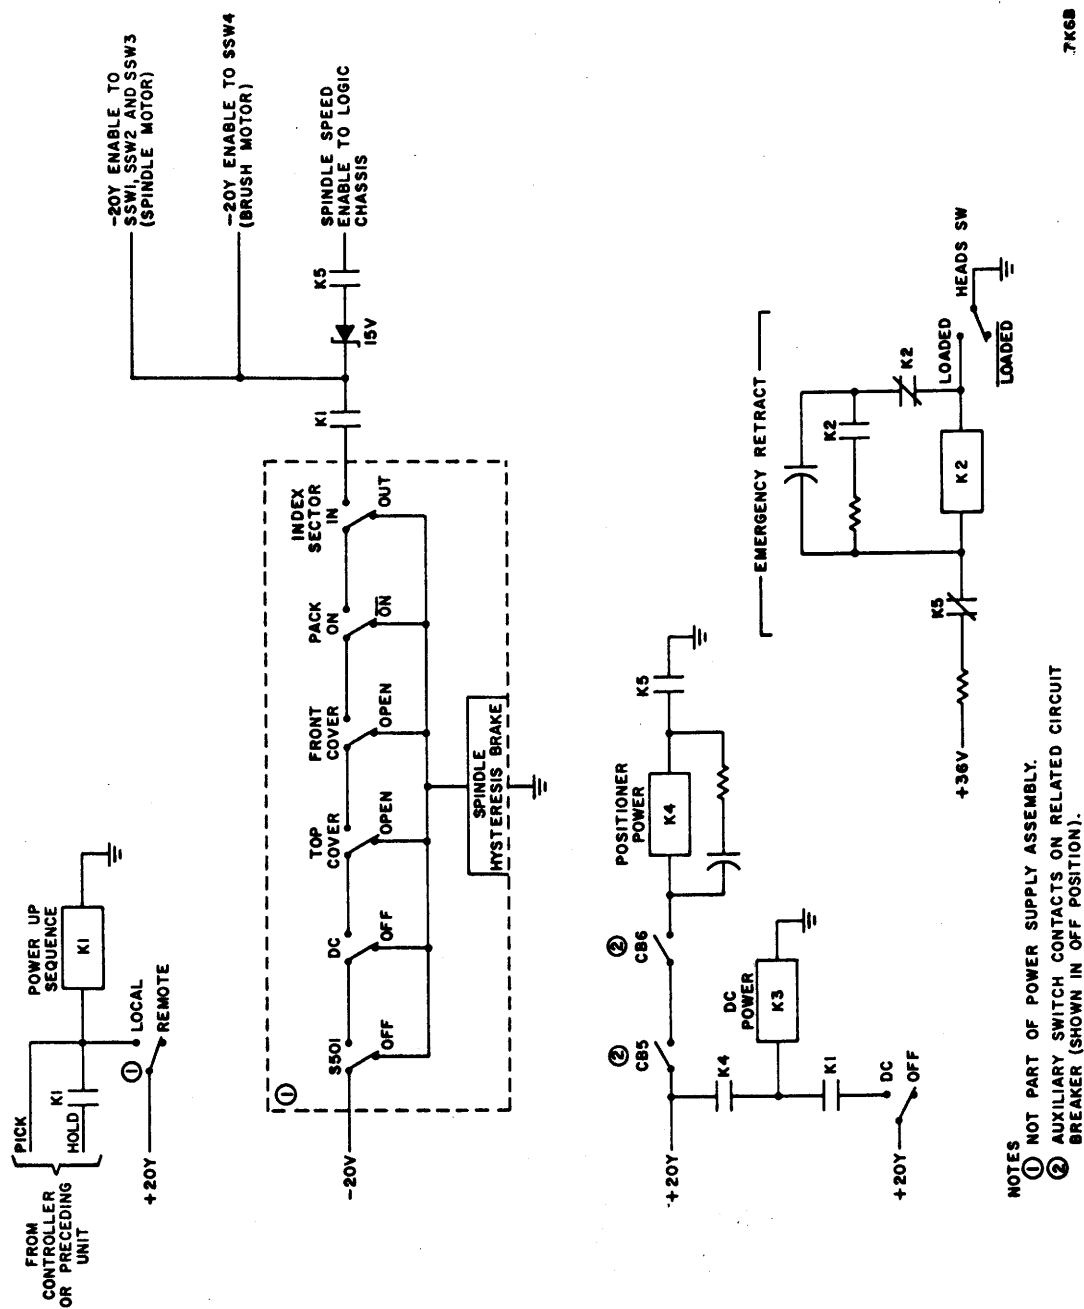

Figure 4-8. Power Supply - Sequencing
2. Press operator panel switch S501 (Figure 4-8).
3. Controller-issued sequence voltage energizes K1 via the pick line (Figure 4-8). Closing contacts of K1 cause the following:
- e. Energize relay K4 (Figure 4-8).
- a. Apply an additional +20 volt line to the armature of relay K3 (Figure 4-8).
1. Press operator panel switch S501 (Figure 4-8). The -20Y voltage is switched to cause the following:
- b. Opens the ground side of relay K4 (Figure 4-8). (The capacitor in parallel with the K4 armature will take approximately 300 ms to discharge during which time K4 remains energized.)
- c. Applies +36 volts to the armature of relay K2 (Figure 4-8). (The capacitor in parallel with the K2 armature will take approximately 400 ms to charge during which time K2 remains de-energized.)